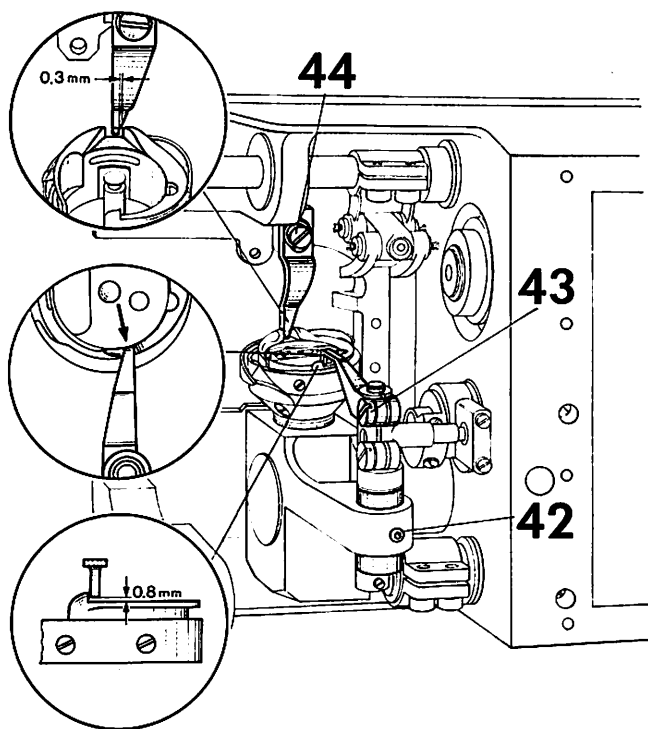

Fig. 21
19. **Adjusting the Bobbin Case Opener (Fig. 21)**
- 19.3 Turn the eccentric bushing in such a way that the top edge of opener finger is in line with the inner side of the bobbin case base (see middle circle of Fig. 21).
- 19.4 In this position, push the eccentric bushing endwise until there is a clearance of 0.8 mm (.03") between the bottom edge of the opener finger and the rim of the bobbin case (see lower circle of Fig. 21).
- 19.7 Now turn the opener finger together with the bobbin case base towards the right until there is a clearance of abt. 0.3 mm (.01") between the bobbin case position finger and the right wall of the position slot in the bobbin case base (see upper circle of Fig. 21).